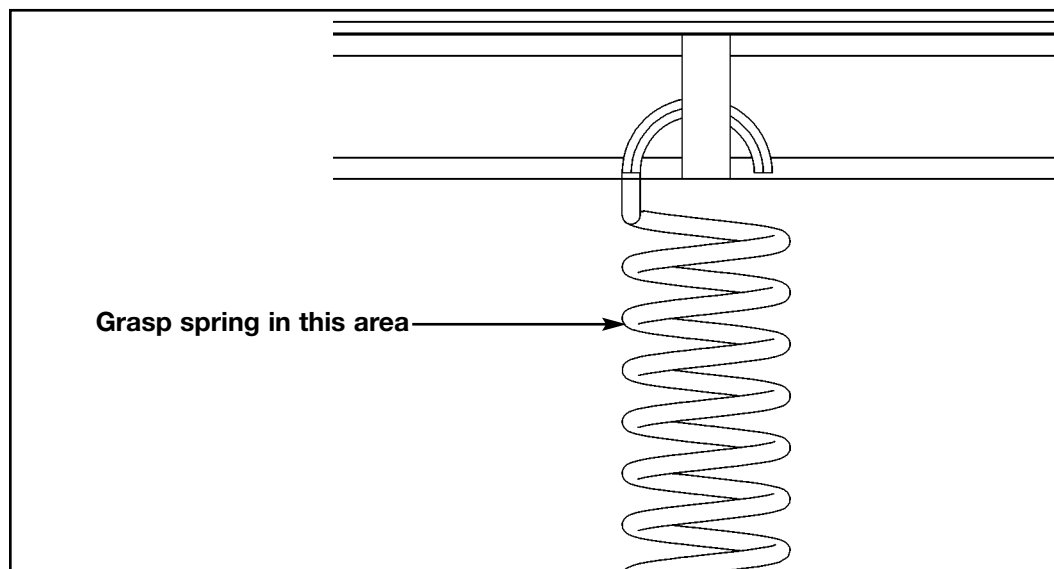

Figure 2
**2. Disconnect upper end of each spring** (refer to steps 2A - 2E, Figures 2 and 3).
**A.** Firmly grasp upper end of spring. See Figure 2.